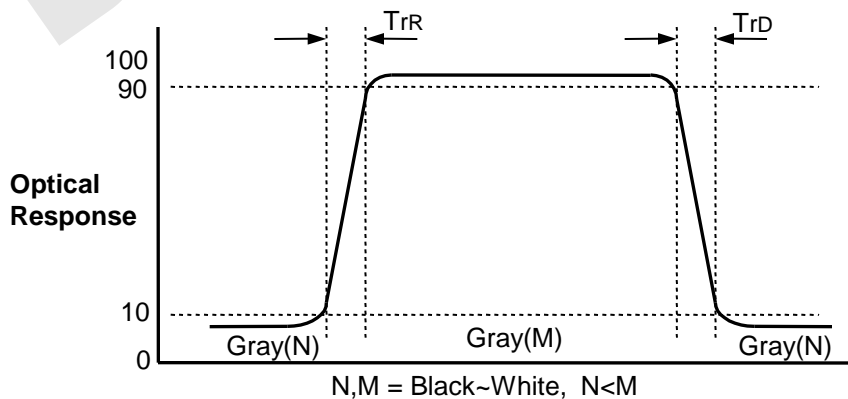

FIG. 3 Response Time
- Response time is the time required for the display to transit from G(N) to G(M) (Rise Time, Tr_R) and from G(M) to G(N) (Decay Time, Tr_D). For additional information see the FIG. 3.(N<M)